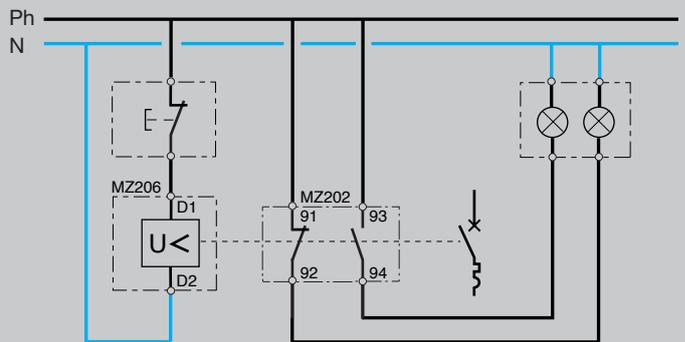

Fig 10
**MZ206 under voltage release\* (fig 10)**